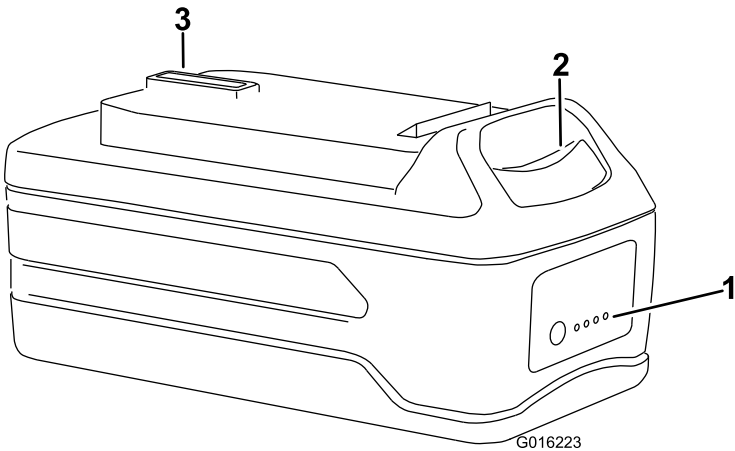
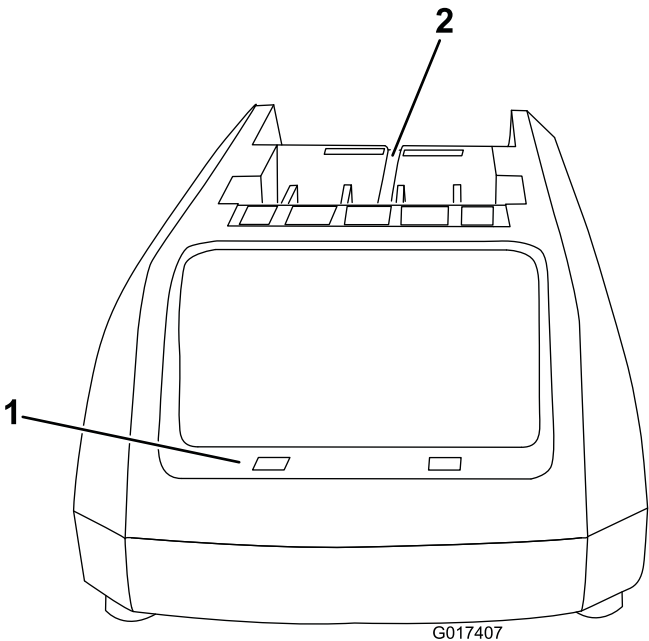

Figure 6
Figure 5
- 1. Turn the battery upside down and line up the battery terminal with the slot in the charger (Figure 5 and Figure 6).